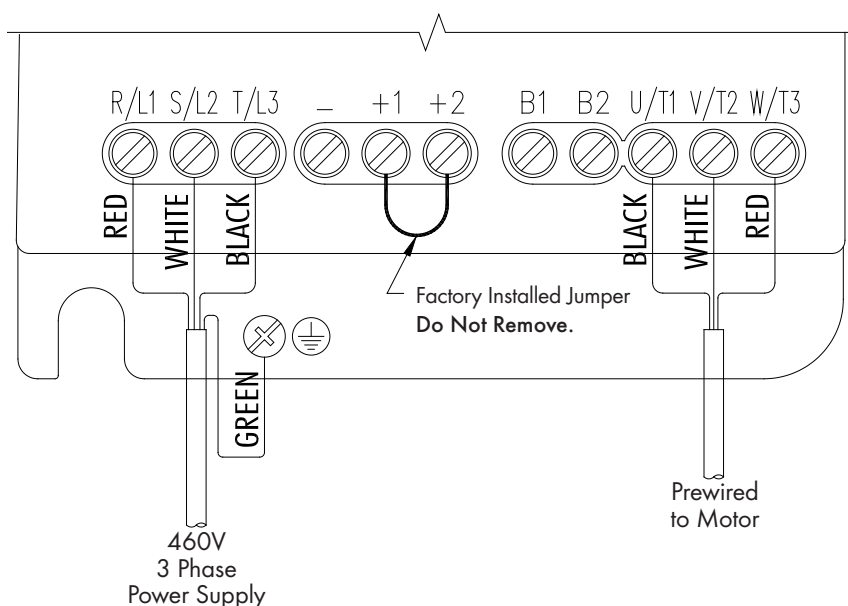

Figure 18B
All cables that enter the Munters Drive box must enter through a properly sized watertight fitting. Loosen the (4) screws in the cover of the Munters Drive box to access the terminals inside to connect power and other cables. *See Figure 18A.* Run the 3 phase power cable through watertight fitting into the Munters Drive box and connect to the terminals "R/L1, S/L2, T/L3" and Ground in the box. *See Figure 18B.* The Munters Drive is prewired to the Motor.